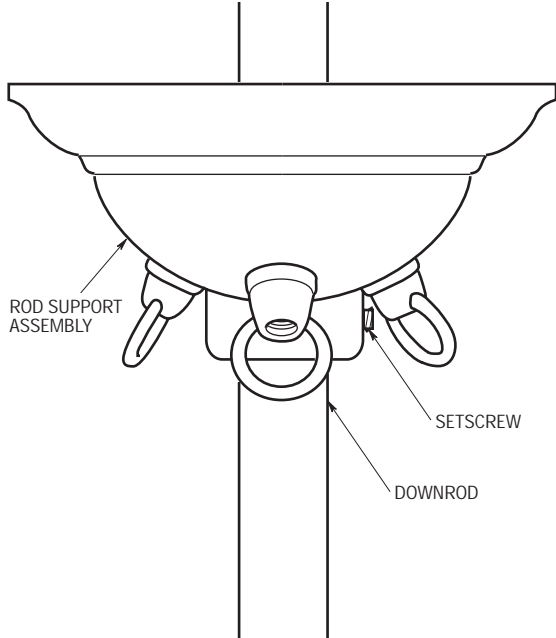

Figure 1
- 1. Loosen the setscrew in the collar of the rod support assembly using the 5/64" hex wrench (supplied) and slide the support assembly over the downrod (Figure 1).